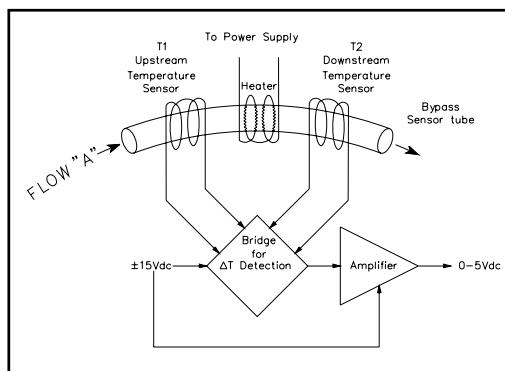

Figure 3-1 Flow Sensor Operational Diagram
The thermal mass flow sensing technique used in the 5850TR works as follows: A precision power supply provides a constant power heat input (P) at the heater, which is located at the midpoint of the sensor tube. Refer to figure 3-1. At zero, or no flow conditions the heat reaching each temperature sensor is equal. Therefore the temperatures T_1 and T_2 are equal. When gas flows through the tube the upstream sensor is cooled and the downstream sensor is heated, producing a temperature difference. The temperature difference $T_2 - T_1$, is directly proportional to the gas mass flow. The equation is: $\Delta T = A * P * C_p * m$